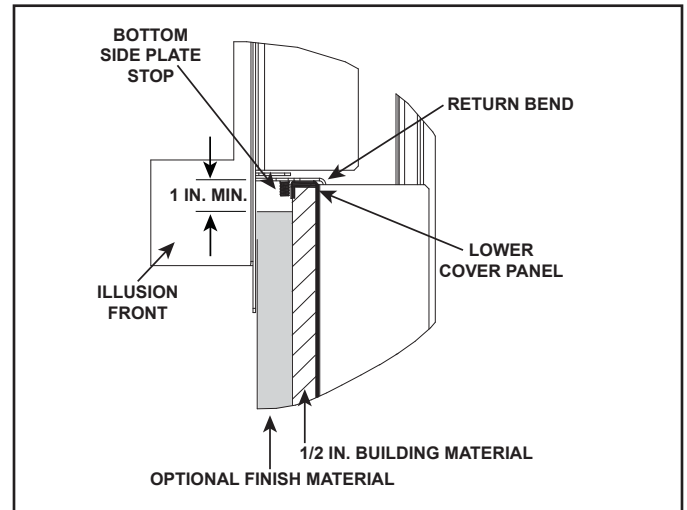

Figure 13.10. Illusion Front, Side View - Bottom Side Plate Installed Over Lower Cover Panel
**ILLUSION:** Requires a minimum of 1 inch clearance to the non-combustible finishing material from the bottom fireplace opening. See Figure 13.10.